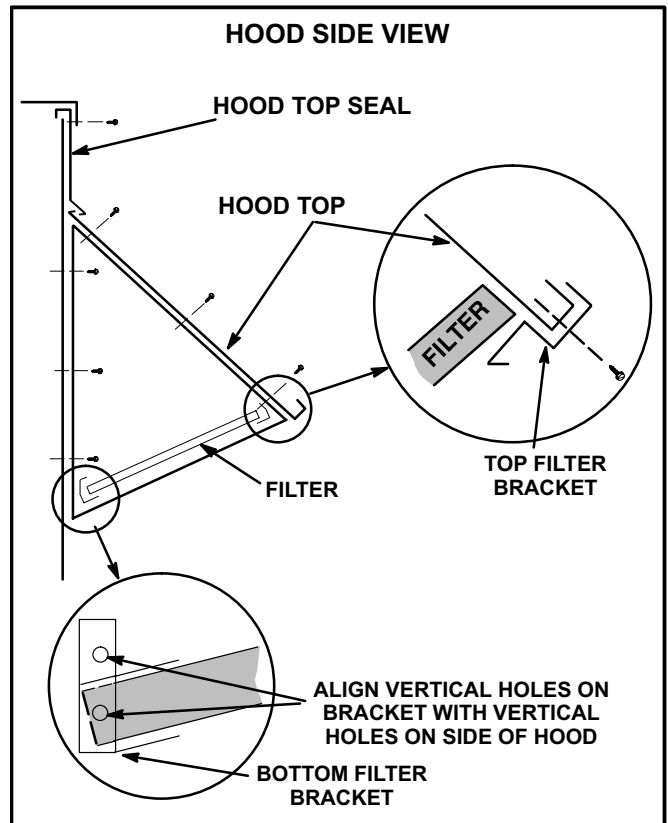

FIGURE 5
- 3- Align two holes on intake hood side panel with two holes on bottom (longer) filter bracket. See figure 5. Secure both sides of bottom filter bracket to hood sides with sheet metal screws.